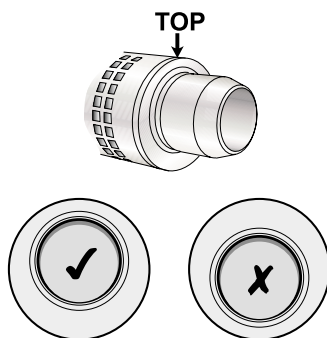

Fig. 6
2. From outside building – rotate terminal section to position ‘TOP’ label uppermost (Fig. 6).